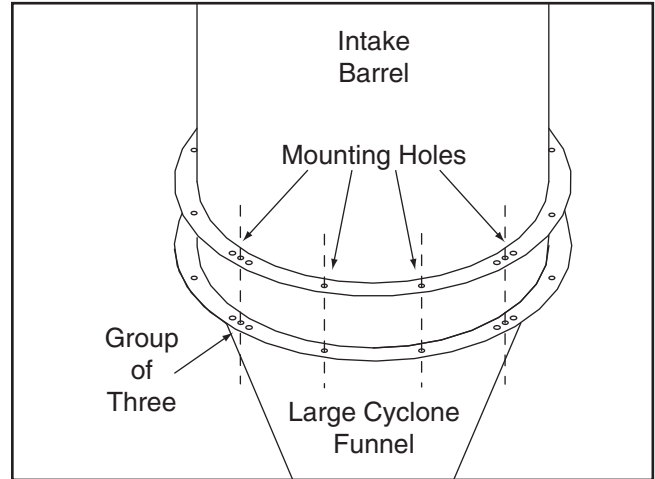

Figure 18. Intake barrel and large cyclone funnel mounting holes aligned.
- With assistance, place the intake barrel over the large cyclone funnel and align the mounting holes as illustrated in **Figure 18**.
12. Install the four cyclone mounting brackets with (8) $\frac{3}{8}$ "-16 x $1\frac{1}{4}$ " hex bolts, (16) $\frac{3}{8}$ " flat washers, and (8) $\frac{3}{8}$ "-16 lock nuts (see **Figures 18 & 20**).